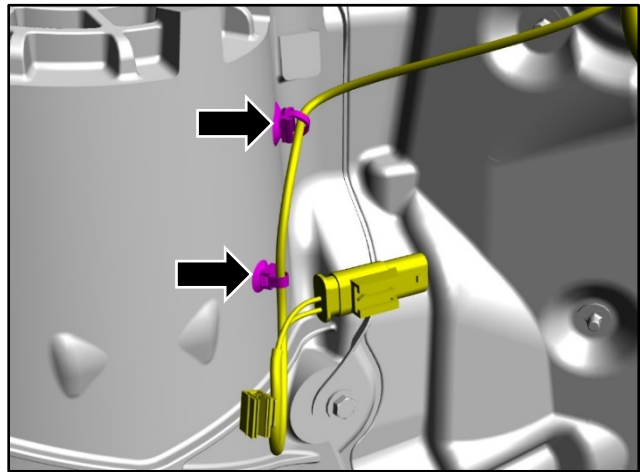

Figure 21
6. Release the two clips for the wiring harness (refer to Figure 21).